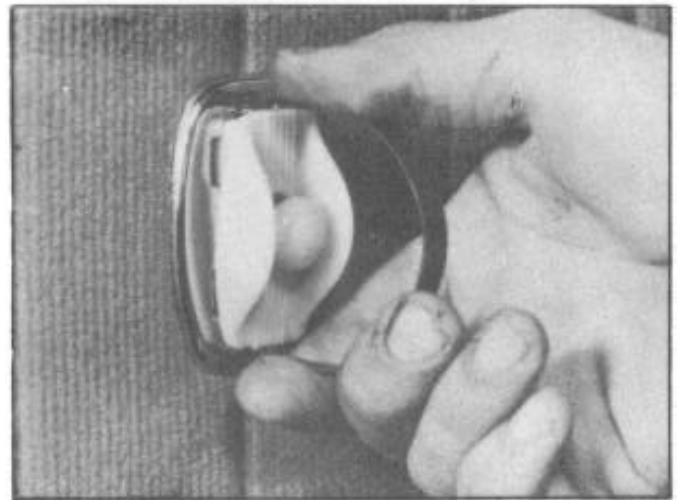

FIGURE 127
To remove a switch from its mounting, a special tool, KMO-685, is available. This tool fits in a notch at either end of the housing, Figure 127, to unlock the snap locks, releasing the switch assembly for removal straight out from its mounting in the door panel
5. Remove window regulator switch (electric) using tool KMO-685, Figure 127.